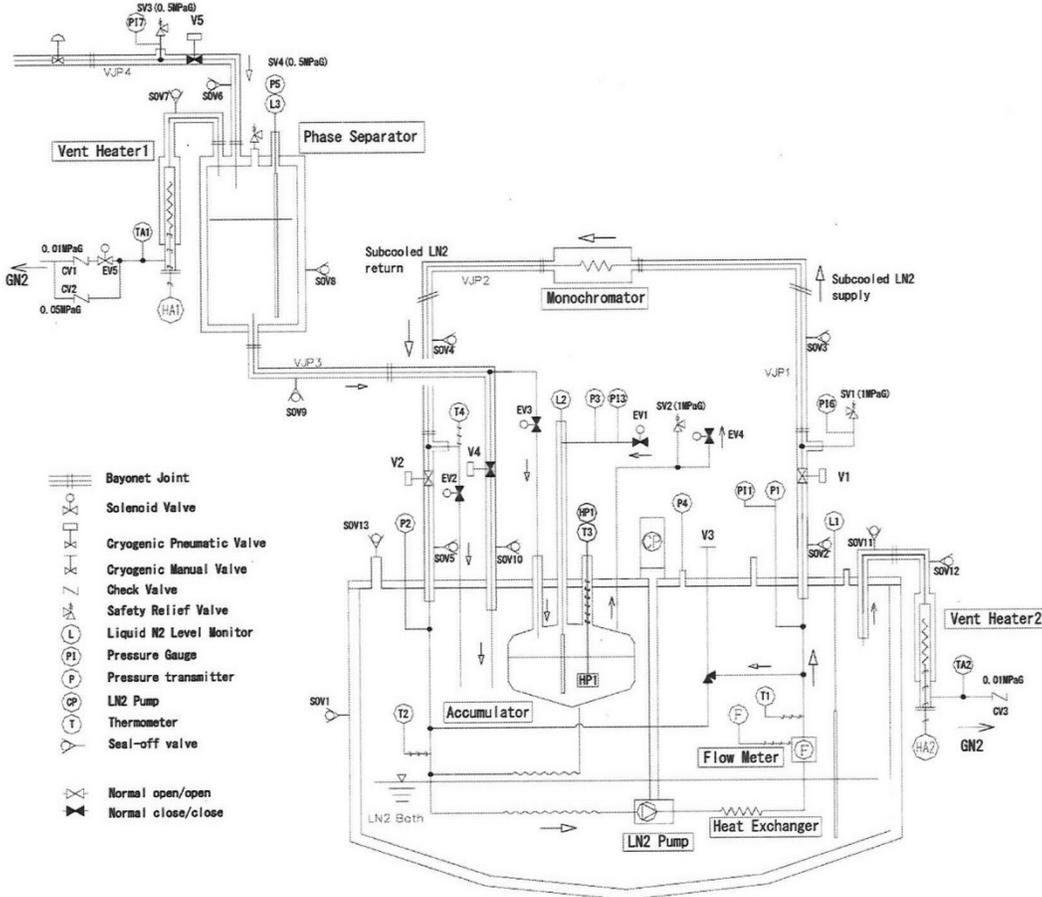

Figure 4-1: Flow Diagram
- 4.12 The system is in the proper configuration, as shown in the Flow Diagram in Figure 4-1, from section 9 of Attachment A, *Suzuki Shokan User Manual*.